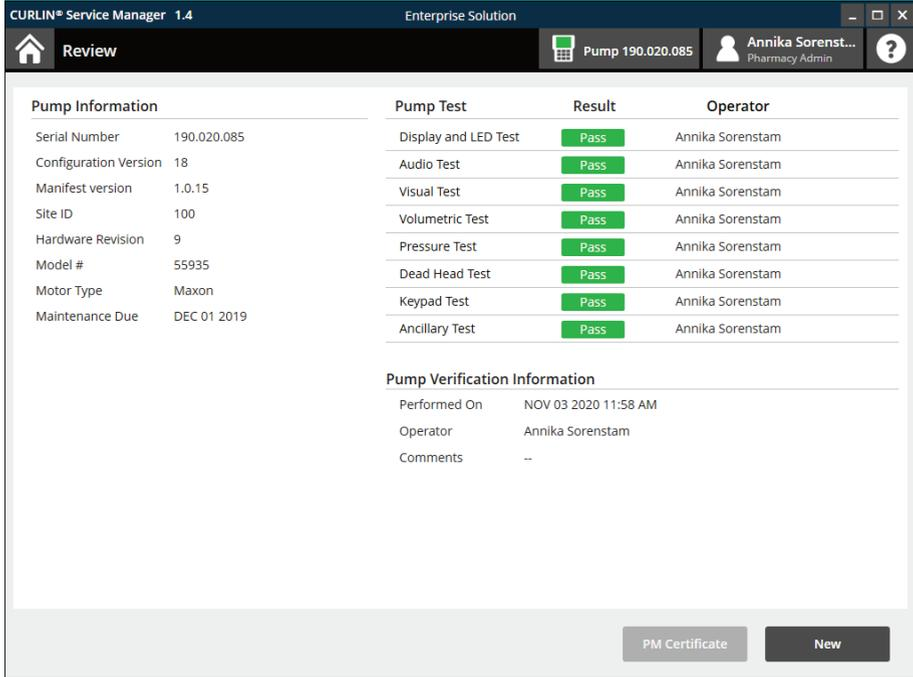

Figure 4-11: Verification Review Summary
3. When you are finished, click **Submit**. The Verification Review Summary screen appears (Figure 4-11).
The Verification Review Summary screen (Figure 4-11) displays the pump's information, test results, verification test date, the person(s) who conducted the tests, and any comments. At this point, verification testing is complete.